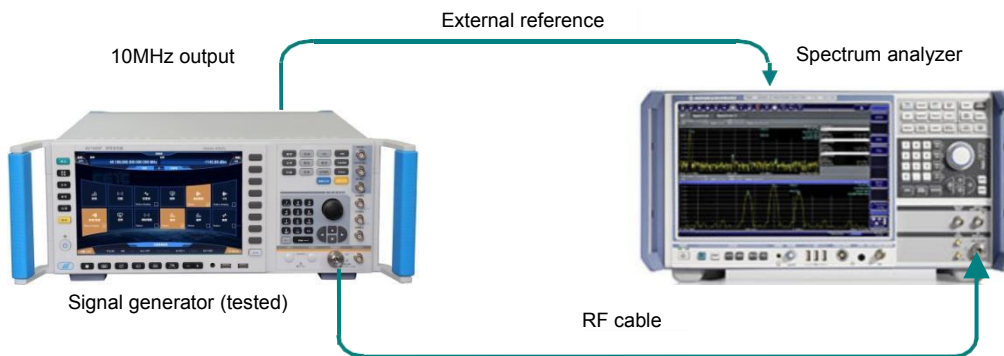

Fig.7.6 Low Power Test
Step 3. Connect the spectrum analyzer to the signal generator as shown in Fig.7.6. Set the power of the signal generator to 0 dBm. Set this level to the reference level and use the spectrum analyzer relative measurement mode to set the signal generator power to the minimum ALC power. Use the spectrum analyzer to test relative difference P2 of its minimum ALC power relative to 0 dBm (P1 + P2 is the measured value of the minimum ALC output power) and record the measured value on the test record table.
Step 5. Connect the spectrum analyzer to the signal generator as shown in Fig.7.6. Set the signal generator power to 0 dBm, attenuate to the minimum indicated power P2 with the step of 10 dB, and test the relative difference P3 between the power at each frequency point and 0 dBm.